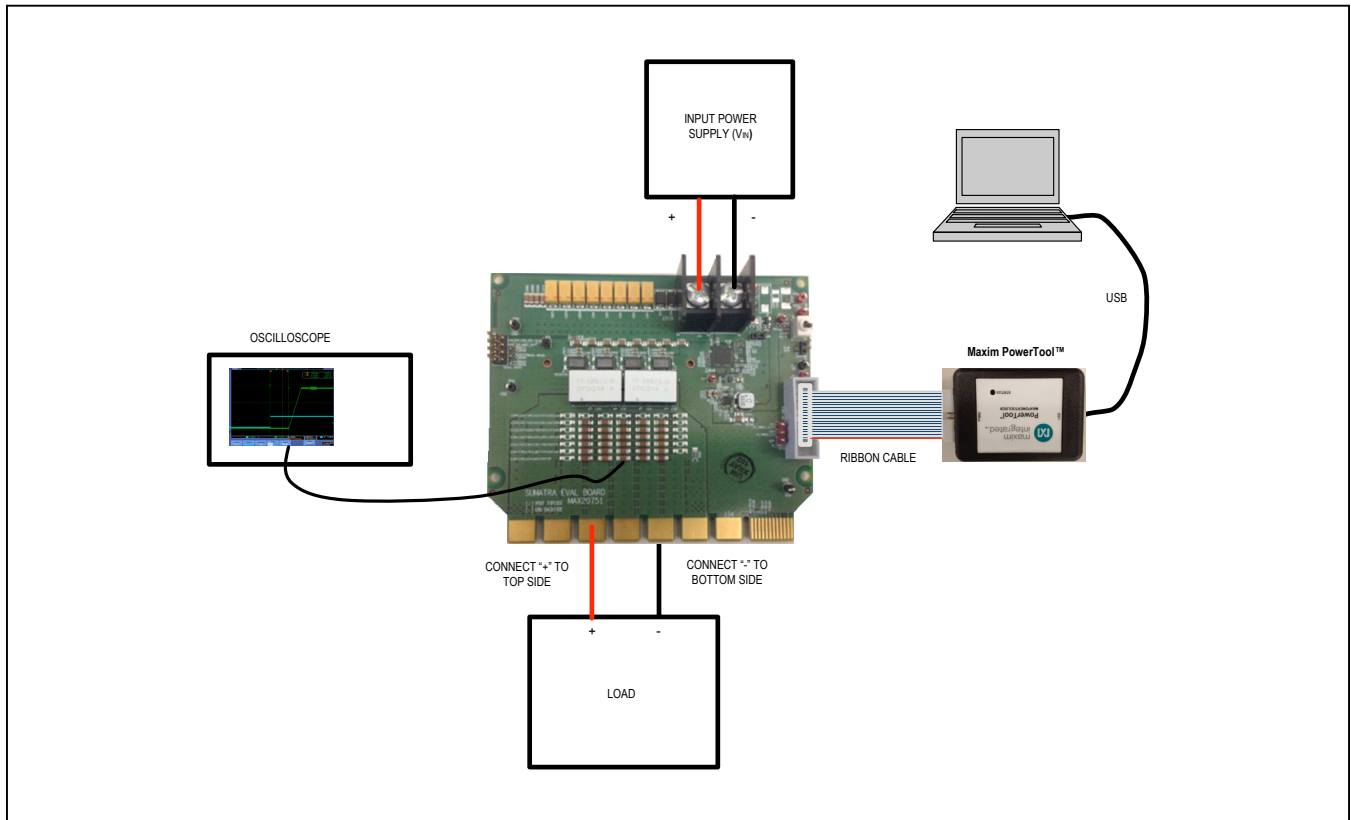

Figure 1. System Setup
- 6) Connect the load to the EV kit output by soldering to the top of the output connector, as shown in Figure 1.
The positive input terminal block (J78) is located on the left side of the connector with the PCB oriented as shown in Figure 1. The negative side is located on the right side of the connector.
The EV kit includes enable switch SW1 to control the IC's VR_ON input. The ON position is up and the OFF position is down when the board is oriented per Figure 1.